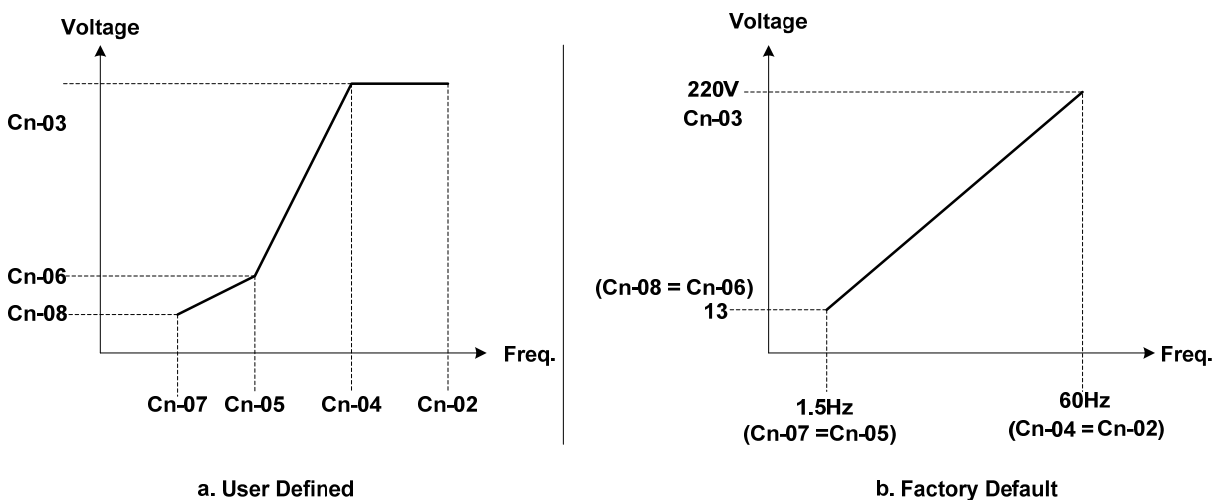

Fig. 9.2.2.1 User Defined V/F Curve
- Cn-02 - Cn-08 can be set by the user when Sn-02 is set to 15. The user-defined V/F curve can be specified using the settings of Cn-02 - Cn-08 as shown in Fig. 9.2.2.1a. The factory default setting is a straight line for the V/F curve (Cn-05=Cn-07, Cn-06 is not used) as shown below in Fig. 9.2.2.1b for the 230V / 60Hz example.